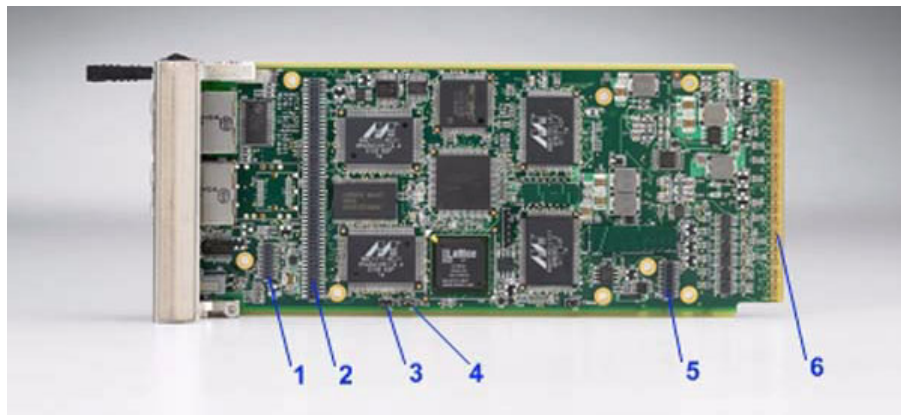

Figure 3.1 Base Module PCB View
As mentioned in the previous chapters, the aMCH base module carries, (1) an IPMI controller for up to twelve AMC modules, Power and Cooling Units, backplane devices, and front panel connectors, and (2) two GbE Layer2 switches for Fabric A for up to twelve AMC modules, front panel uplink, and SGMII interface for the CPU/L3 switch on PCB3. See Figure 3.1 and Table 3.1 for detailed description of the base module.